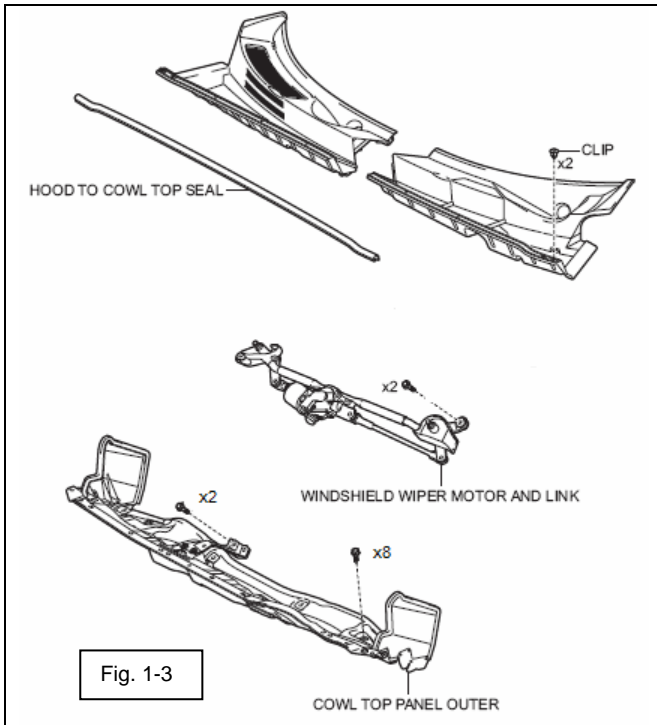

Fig. 1-3
- (e) Remove cowl covers. (Fig. 1-3)
- (1) Disconnect wire connector.
- (2) Remove screws (2). (10mm)